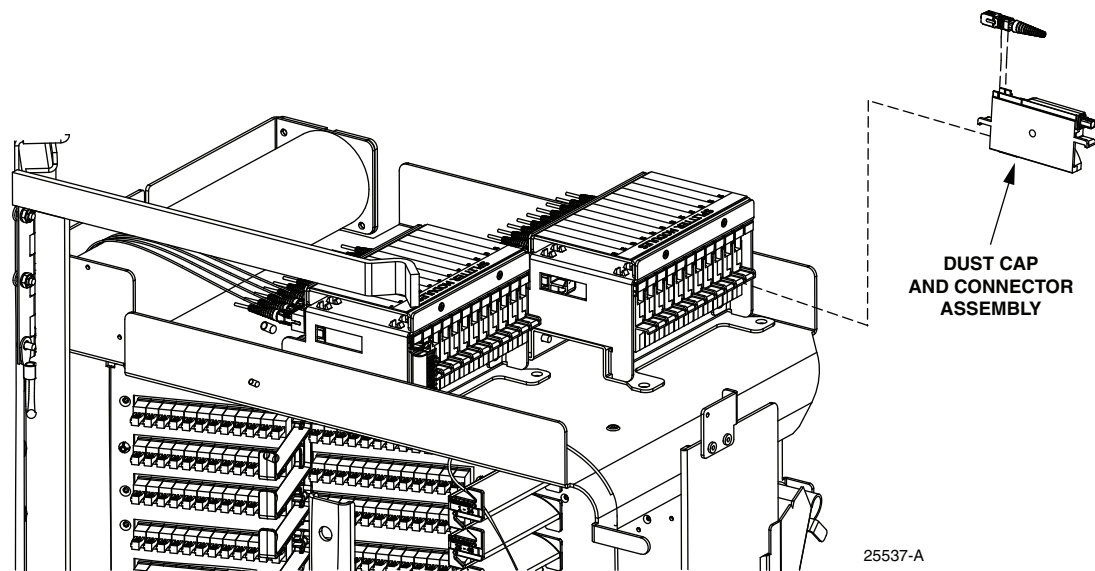

Figure 16. Inserting Dust Cap Assembly
9. Connect the patch cord connector to the feeder cable connector by inserting the dust cap assembly into the splitter slot as shown in Figure 16.